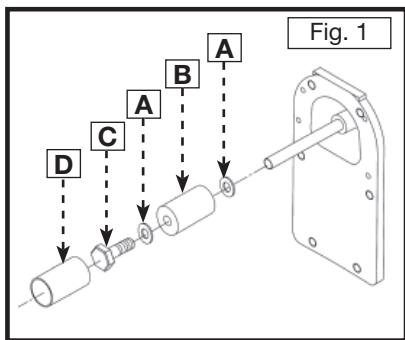

Fig. 1
Note: When installing a 1/2" sanding sleeve on the shaft, do not use the rubber drum (B) or washers (A) Fig. 1.
1. Place the washer (A) Fig. 1 on the spindle shaft.
2. Place the rubber drum (B) on the spindle shaft.
3. Place a second washer (A) over the bolt hole opening.
4. Thread a 5/16-24 locking bolt (C) on the shaft, but do not tighten.
5. Slide the sanding sleeve (D) over the rubber drum (B). Make sure that the sanding sleeve (D) is flush with the rubber drum (B).
6. Tighten the 5/16-24 locking bolt (C) on the shaft to hold the sanding sleeve (D) in place.